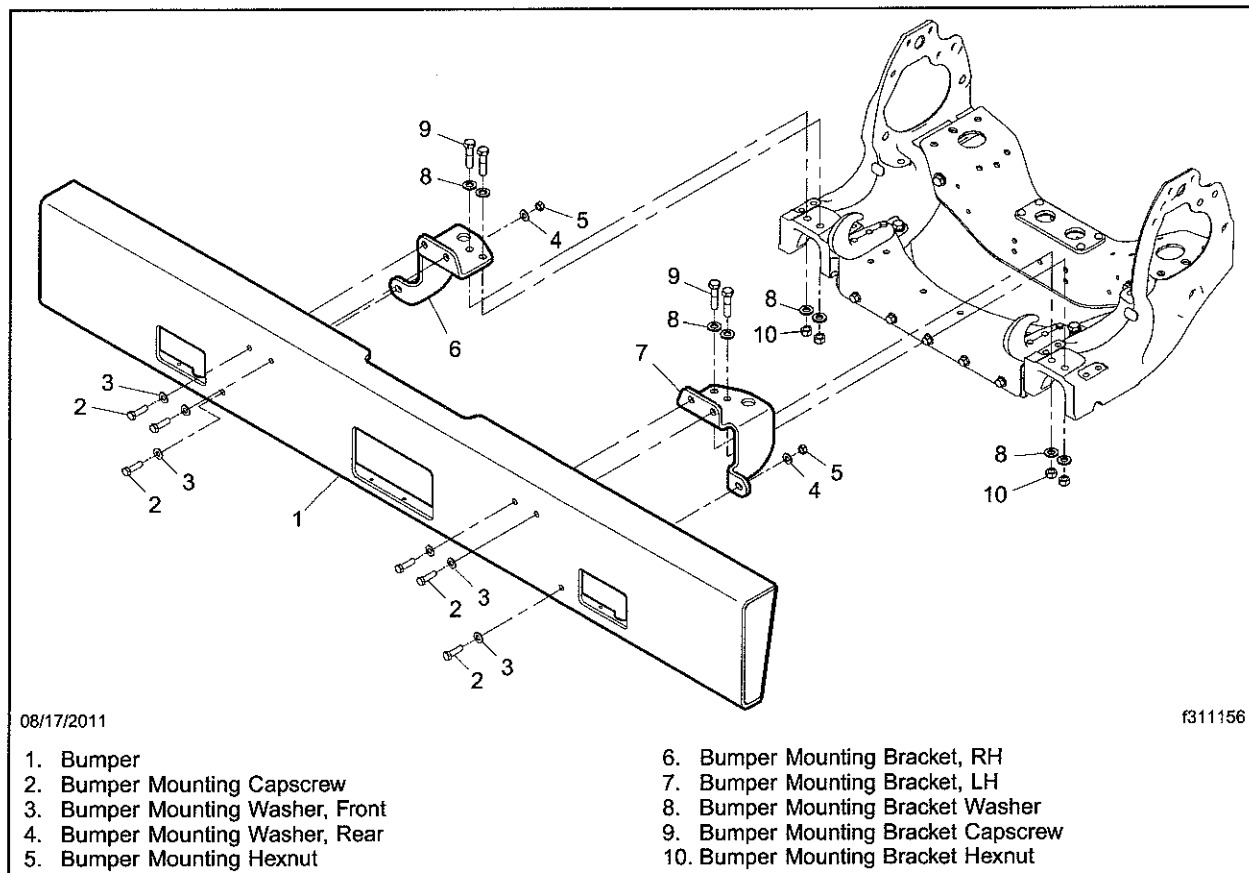

Fig. 1, Bumper and Bumper Mounting Brackets
5. Leaving one set of fasteners on each side of the bumper to support it, remove the remaining fasteners that attach the bumper to the bumper mounting brackets. See Fig. 1.